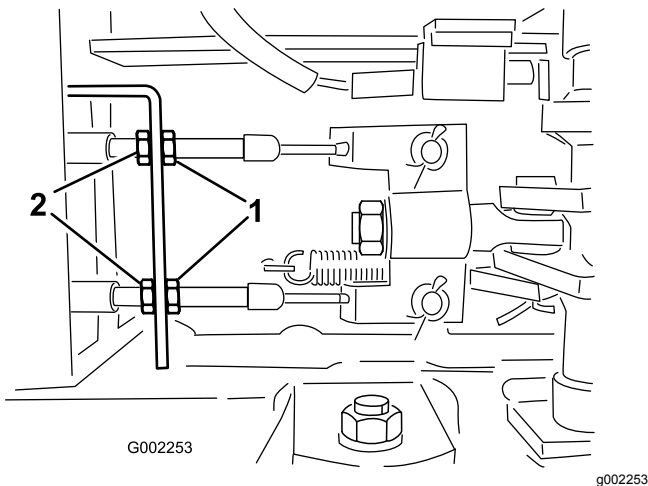

Figure 92
5. Loosen the front jam nuts on the brake cables under the front end of the sprayer (Figure 92).
6. Tighten the rear jam nuts equally until the brake pedal moves between 1 to 2 cm (1/2 to 1 inch) before you feel resistance (Figure 92).